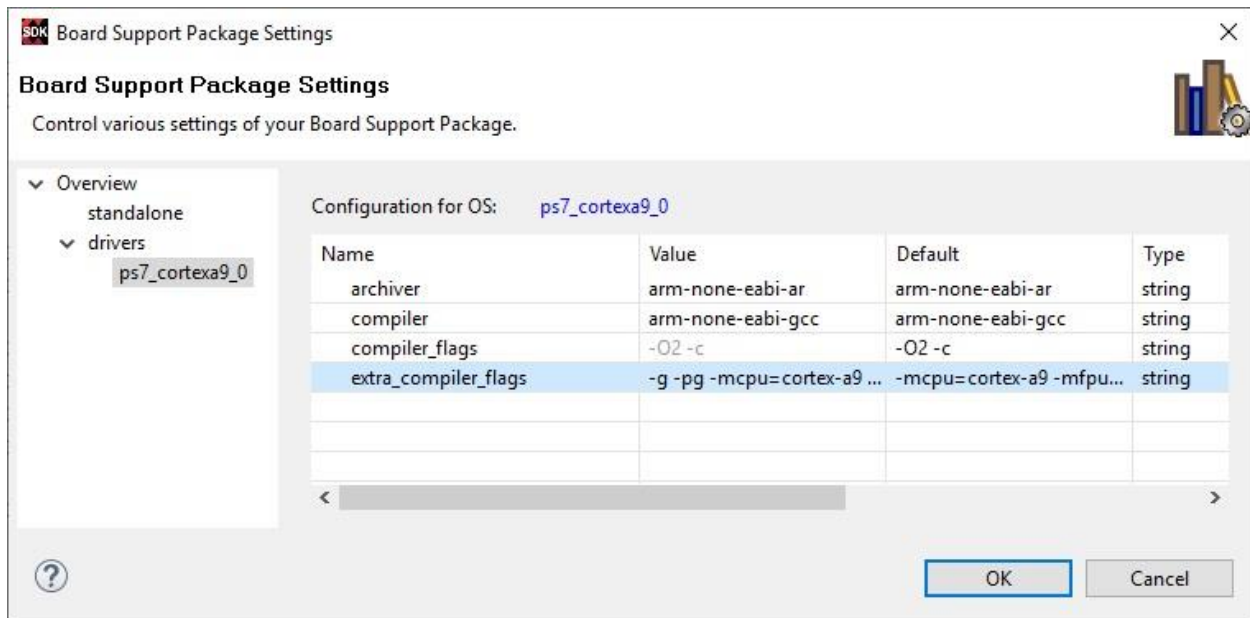

Figure 39: Adding compiler flags for profiler.
6. Select **Overview** → **drivers** → **ps7 cortexa9** and in the extra compiler _flags field, add -g -pg to the front of the other flags, as in Figure 39. The complete field should read: